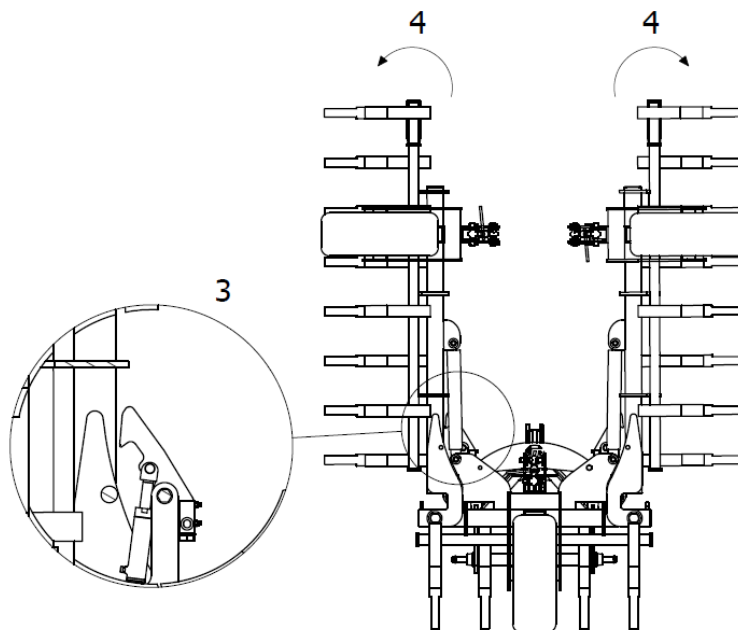

Fig. 5 Implement opening sequence: 3- release the hook of the hydraulic side extension lock mechanism, 4- open the implement side extensions.
3. Then, after making sure that the hook of the hydraulic side extension lock mechanism allows the machine side extensions to be unlocked, proceed to open them fully (Fig. 5).